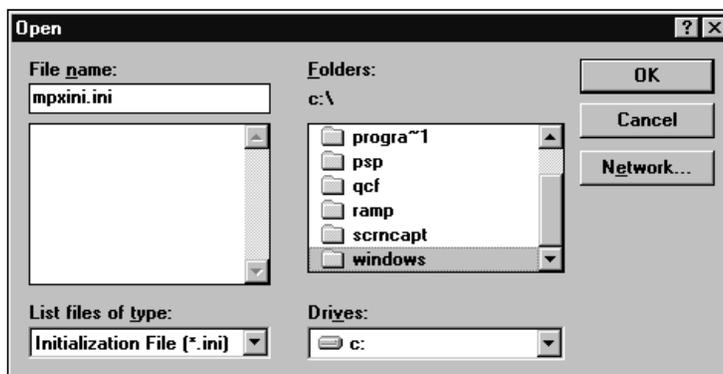

FIGURE 35. Opening MPXINI.INI File
- c. Type `mpxini.ini` in the File Name box. Then use the Tab, Enter, and arrow keys to highlight the windows folder as shown in Figure 35. Finally, press Enter twice to open an edit session for file MPXINI.INI.